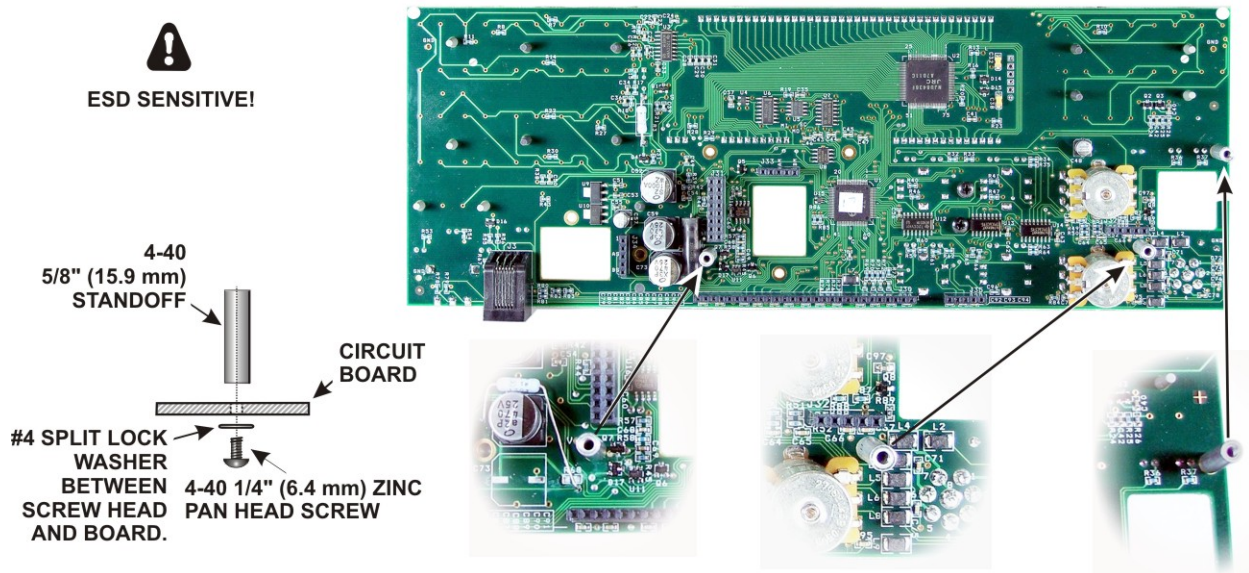

Figure 36. Preparing the Front Panel Board for Mounting, Part 1.
- Mount three standoffs on the back of the front panel board as shown in Figure 36 . Place the lock washer between the screw head and the board as shown.
- Three 4-40 5/8" (15.9 mm) standoffs are mounted on the back as shown in Figure 36.